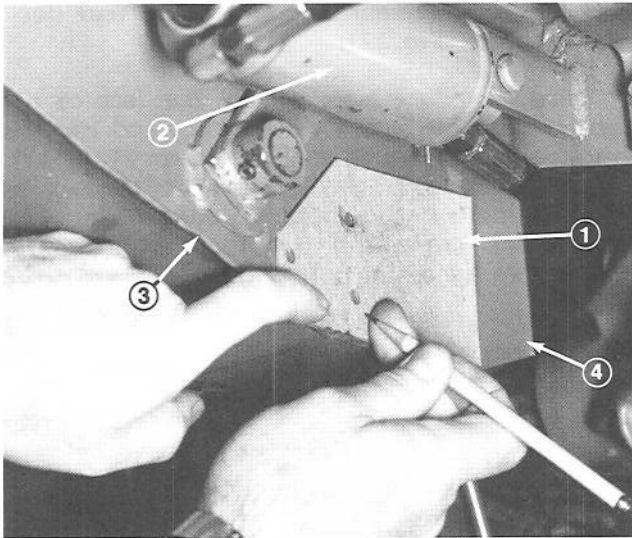

Figure 8
1. Place template against vertical wall beneath lift cylinder (Fig. 8). Assure rear of template is against fire wall and lower edge even with bottom edge of vertical wall (Fig. 8).
2. Mark all three hole locations and center punch each mark (Fig. 8).